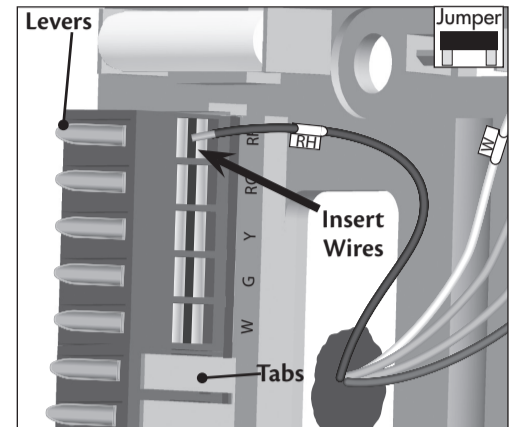

Figure 9.
5. Raise all of the levers on the terminals you will be using. Heat Pump Installation labels are located on the left of the terminal blocks on the mounting plate and Conventional labels are on the right. If your installation does not call for the jumper, remove it now. It is located underneath the wire holes, between the RH and RC terminals on the conventional side. Figure 9.
6. If one of the terminals you need has a tab in front of it, use your finger to break the tab away. Figure 9.